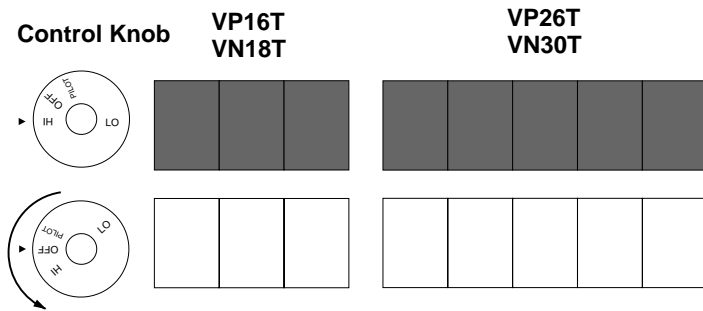

Figure 25 - Burner Patterns
8. Turn thermostat control knob counterclockwise to the desired heating level. For models, VP16T, VN18T, VP26T, and VN30T, the main burner should light. Set control knob to any heat level between HI and LOW (see Figure 25). For infrastat models, the plaque directly above the pilot should light.